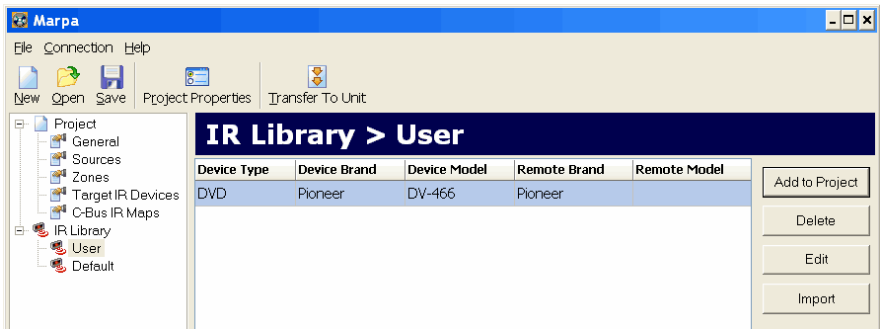

Figure 49 – A device selected in the User branch of the IR Library
- 7) Select the User branch of the IR Library tree. Unless the device is already present in the list, click the Import button and select and open the IR Reader file to be imported. Select the device in the list (if not already selected) and click the Add to Project button. Figure 49 shows an example device selected in the User branch of the IR Library.